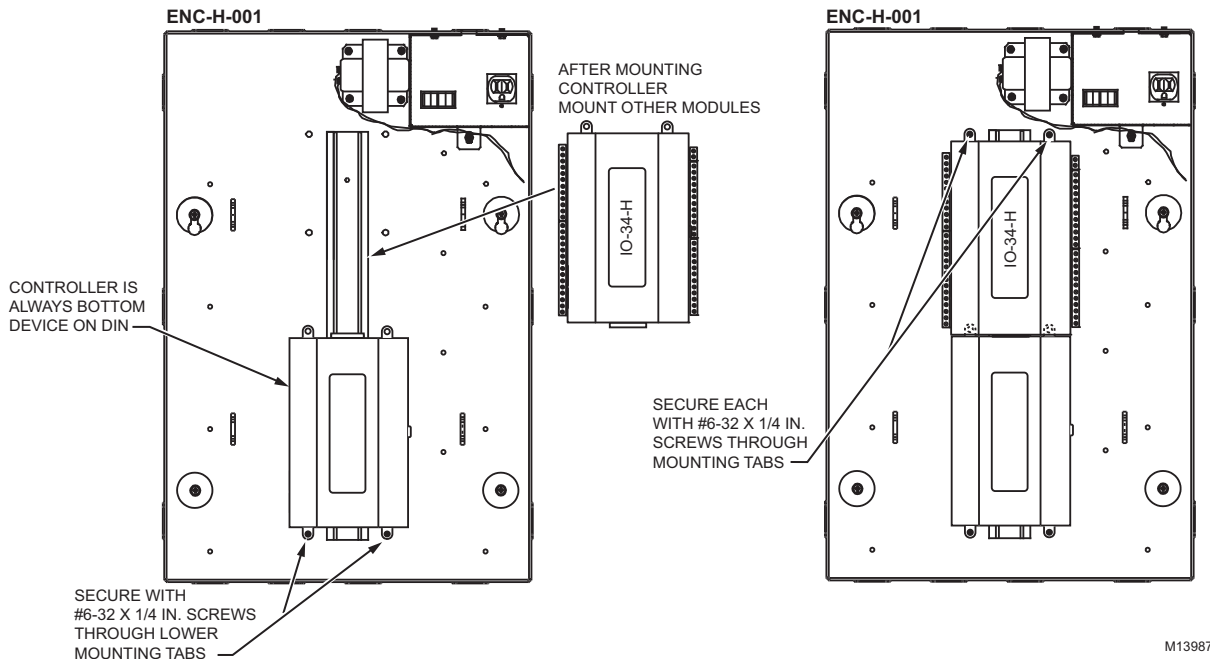

Fig. 9. The WEB-201/600 is always bottom device on DIN rail, and first to be secured with screws.
As shown in Fig. 9 below, the controller is always mounted first, at the bottom of the module assembly.
- Place all (or nearly all) of the devices onto the DIN rail to start, and slide them around as needed. Start fastening devices with the screws starting at the bottom device. The WEB-201/600 is the first device you secure with two screws (Fig. 9.). Next, mate the next module with the controller, secure it with two screws, and continue to the next module. The last module secured with the #6-32 x 1/4 in. screws is top power module (IO-34-H, NPB-PWR-H, or NPB-PWR-UN-H).